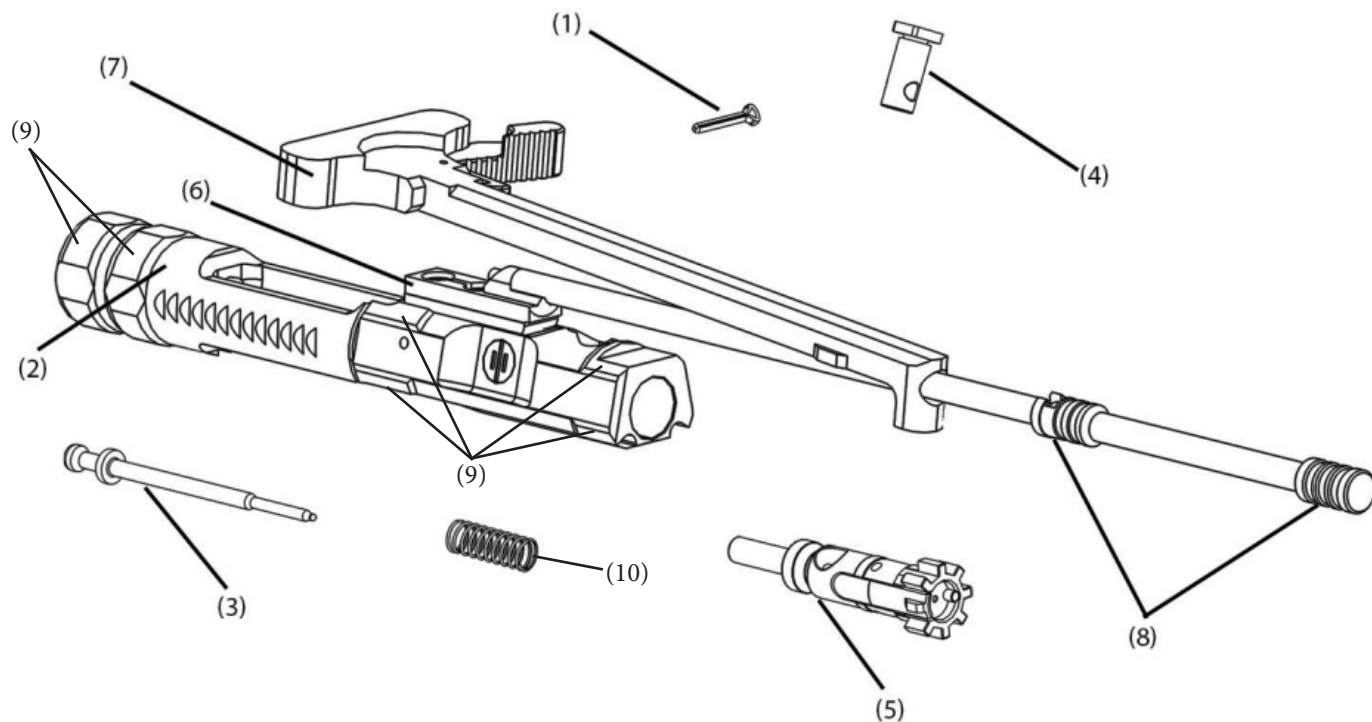

Figure 2.21
Inspect BCG (Fig. 2.21, 5) as follows:
A small amount of lubrication is recommended on the enlarged contact points (9) of the BCG (Fig. 2.21, 2) as well as on bearing surfaces of the bolt (5) and the cam pin (4). Under no circumstances should you lubricate the piston head (8). Doing so can cause excessive buildup on the piston heads and in turn will cause weapon malfunctions.
1. Reinstall spring (10) on rear tail portion of the bolt (Fig. 2.21, 5). Insert bolt back into the front of the carrier (2).
2. Install bolt cam pin (4) and rotate one quarter turn.
3. Hold BCG (2) with bolt assembly (5) down and drop firing pin (3) in through the rear of the carrier (2).
4. Install firing pin retaining pin (1) from left side only. To ensure proper installation, check by holding BCG (2) with bolt assembly (5) up and attempt to shake out firing pin.
5. To replace piston head (8), install charging handle by sliding operating rod through the hole located at the front of the charging handle (7).
6. Install piston head (8) by sliding it onto operating rod.